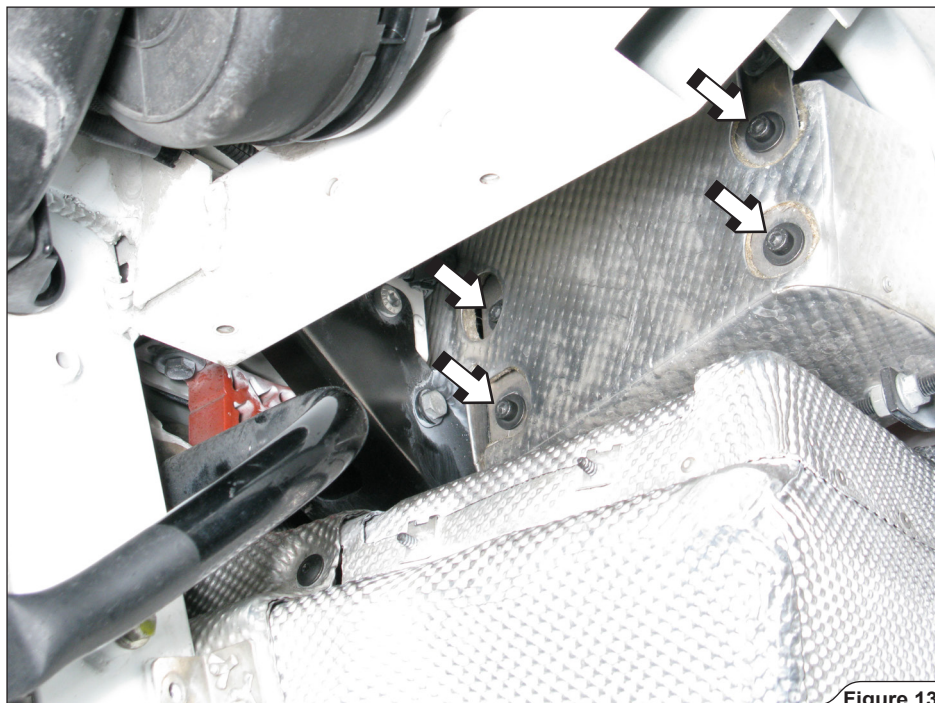

Figure 13
10. Unscrew the marked bolts on both sides of the vehicle, disconnect the tail lights' electrical connectors, and remove the tail lights off the vehicle (Figure 13, 14).